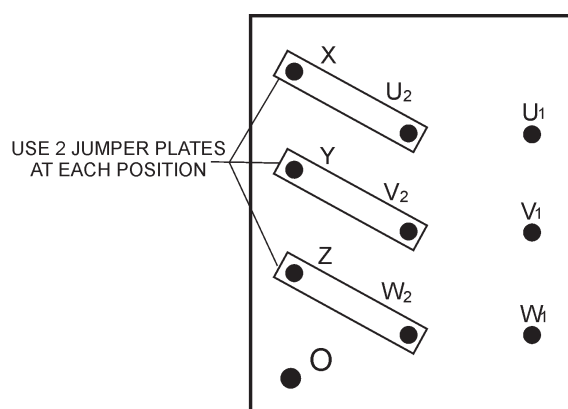

Figure 31. UVWO Terminal Lugs 1Ø-120V Connections
1. Jumper the voltage change-over board for 480V operation as shown in Figure 31. This configuration uses 6 jumper plates in 3 different positions. Remember there are 2 jumper plates at every position. Every jumper plate **must** be used.
1. Make sure the voltage change-over board is jumpered for 480V operation as shown in Figure 31.